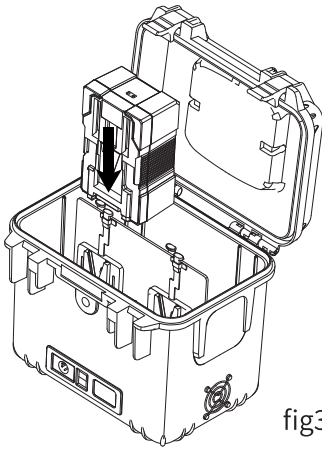

fig3
1. Install the V-mount battery following the arrow direction as shown in figure 3. Battery and battery plate are well connected with cracking sounds.
- ①. Dial up the power switch to “-”, 24V will be activate, DC 48V has no output.
- ②. Dial down the power switch to “=”, 48V will be activate, DC 24V has no output.